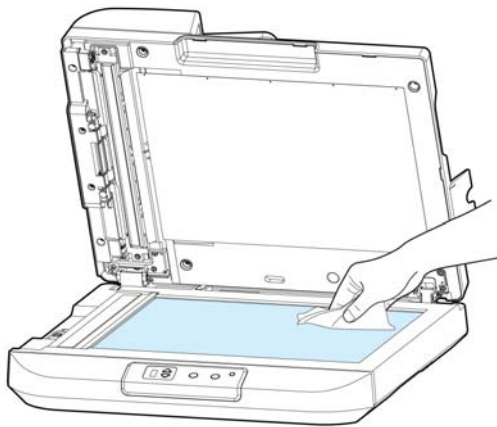

Figure 7-1 The cleaning area
2. Open the document cover as shown in Figure 7-1. Wipe the document glass.